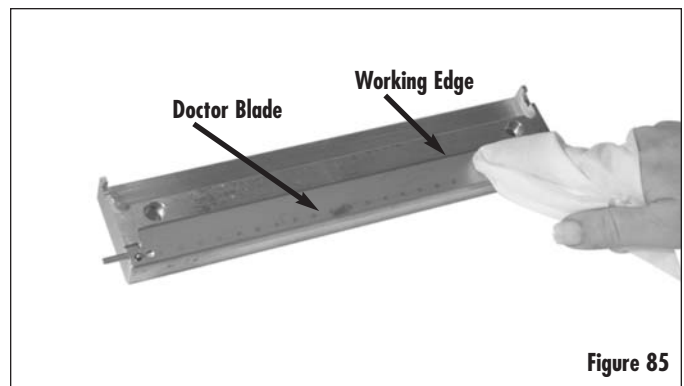

Figure 85
2. Place the doctor blade on the fixture as shown in Figure 85.
5. Once you are sure that the doctor blade is clean, use a lint free cloth saturated with deionized water to wipe down the entire surface of the doctor blade as shown in Figure 85.